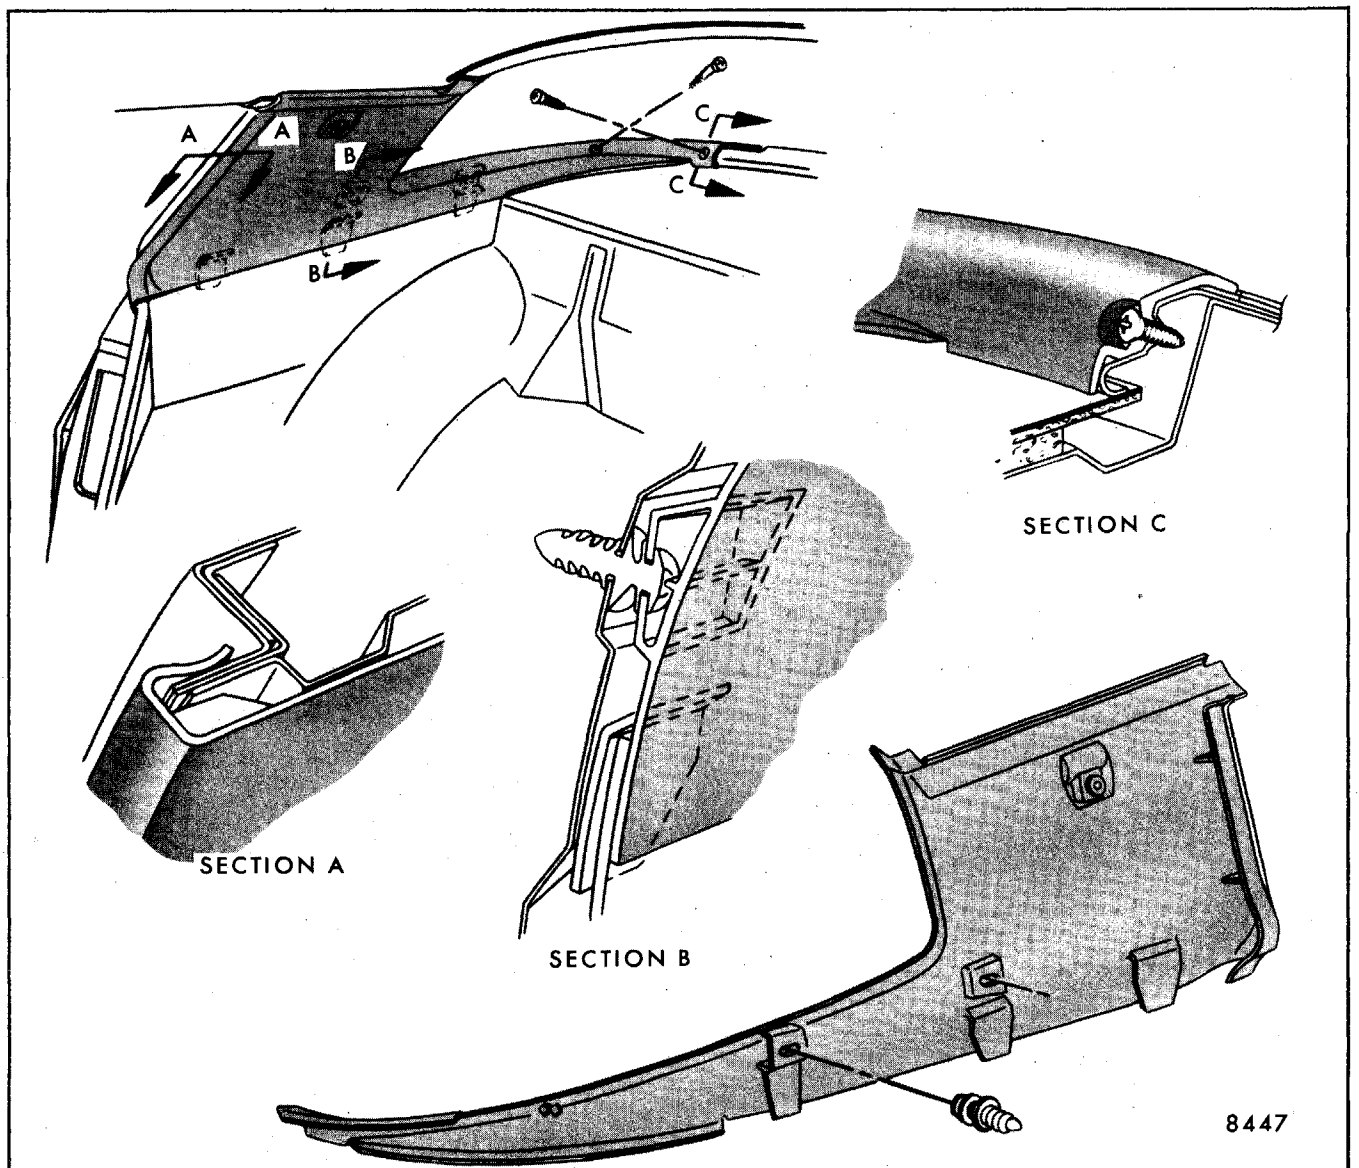

Fig. 6-14-Quarter Upper Trim Attachment - F Styles
3. Remove quarter upper trim on F styles by disengaging plastic clips (Section B, Fig. 6-14) and removing attaching screws from rear of trim panel (Section C, Fig. 6-14).